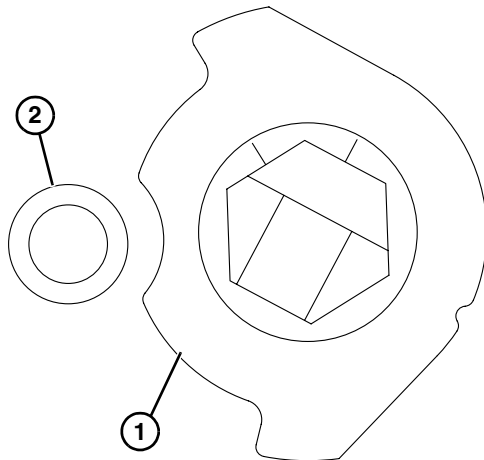

Figure 13
- Hex shaft assembly will need to be rotated (**Figure 13**) for stop keys (**Figure 13, item 1**) to pass by the frame stops (**Figure 13, item 2**).